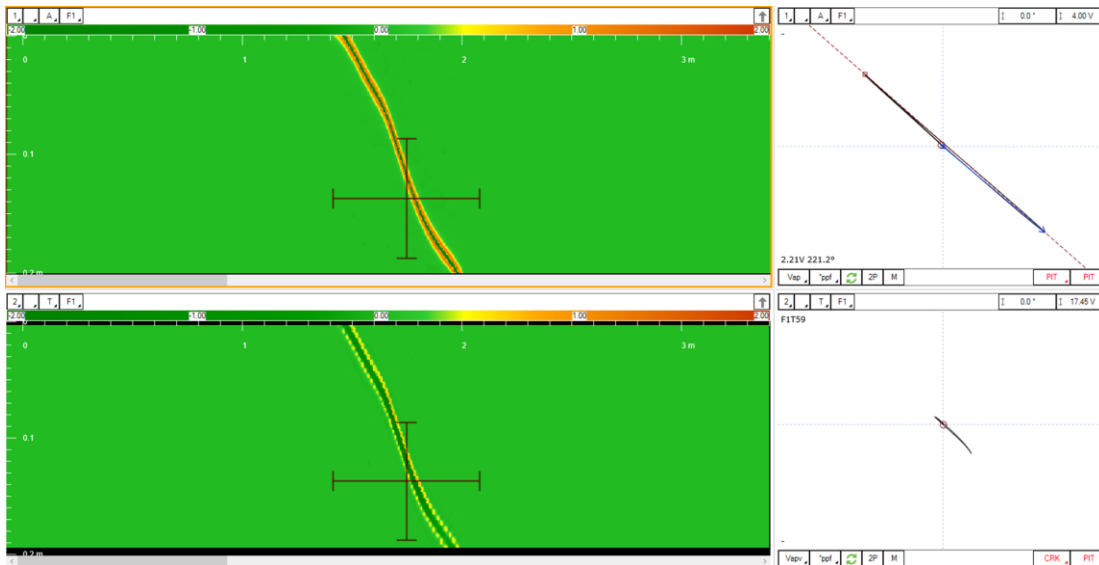

Figure 13. Example of diagonal-shaped signal obtained from the probe functionality check.
- V) Stop the acquisition. Both the axial and transverse C-scans should display a diagonal signal similar to Figure 13. The orientation of the diagonal line does not matter, it depends on the direction of the aluminum tool during the acquisition.